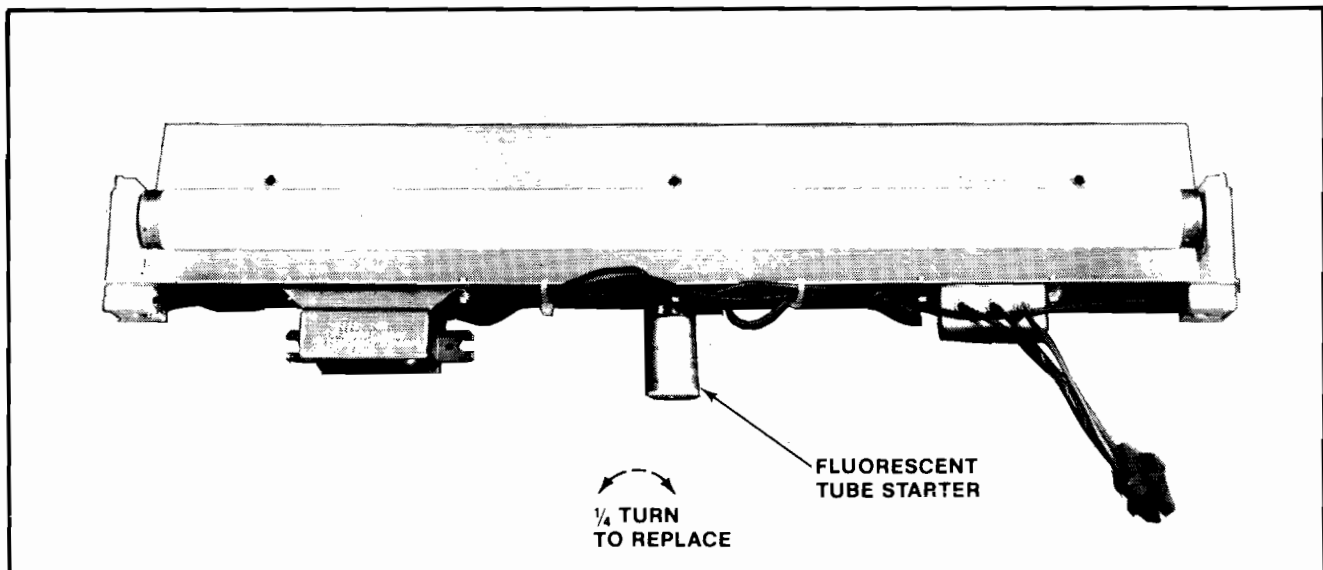

Figure 3-7 Replacing Fluorescent Tube Starter
- Replacing the fluorescent light tube starter. See Figure 3-7.